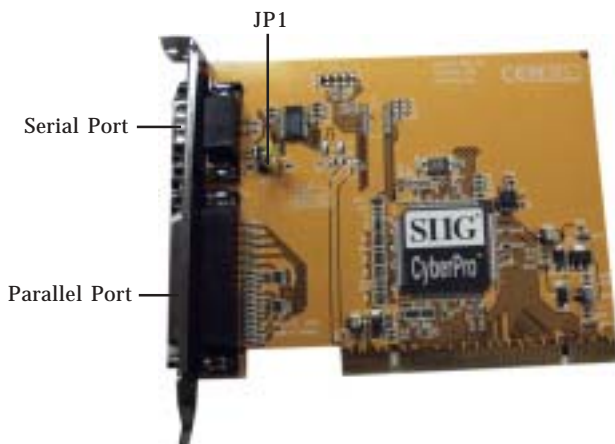

Figure 1. Layout
5. Change **JP1** jumper settings to the desired voltage only if your serial device needs additional power from the serial port. However, most serial devices do not require additional power. For more information, see **Figure 1** on page 2. Skip this step if power is not required.